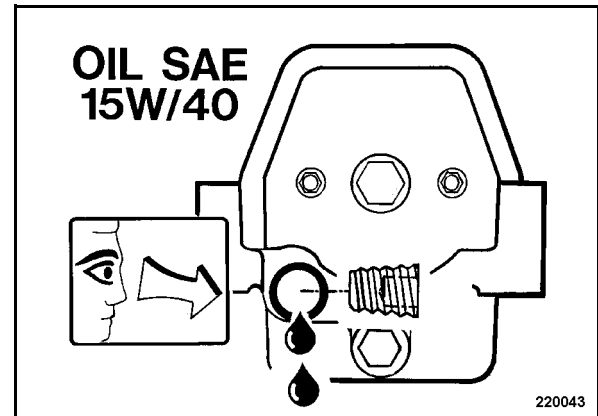

Fig. 43
- Unscrew the screw (Fig. 43) and check the oil level.